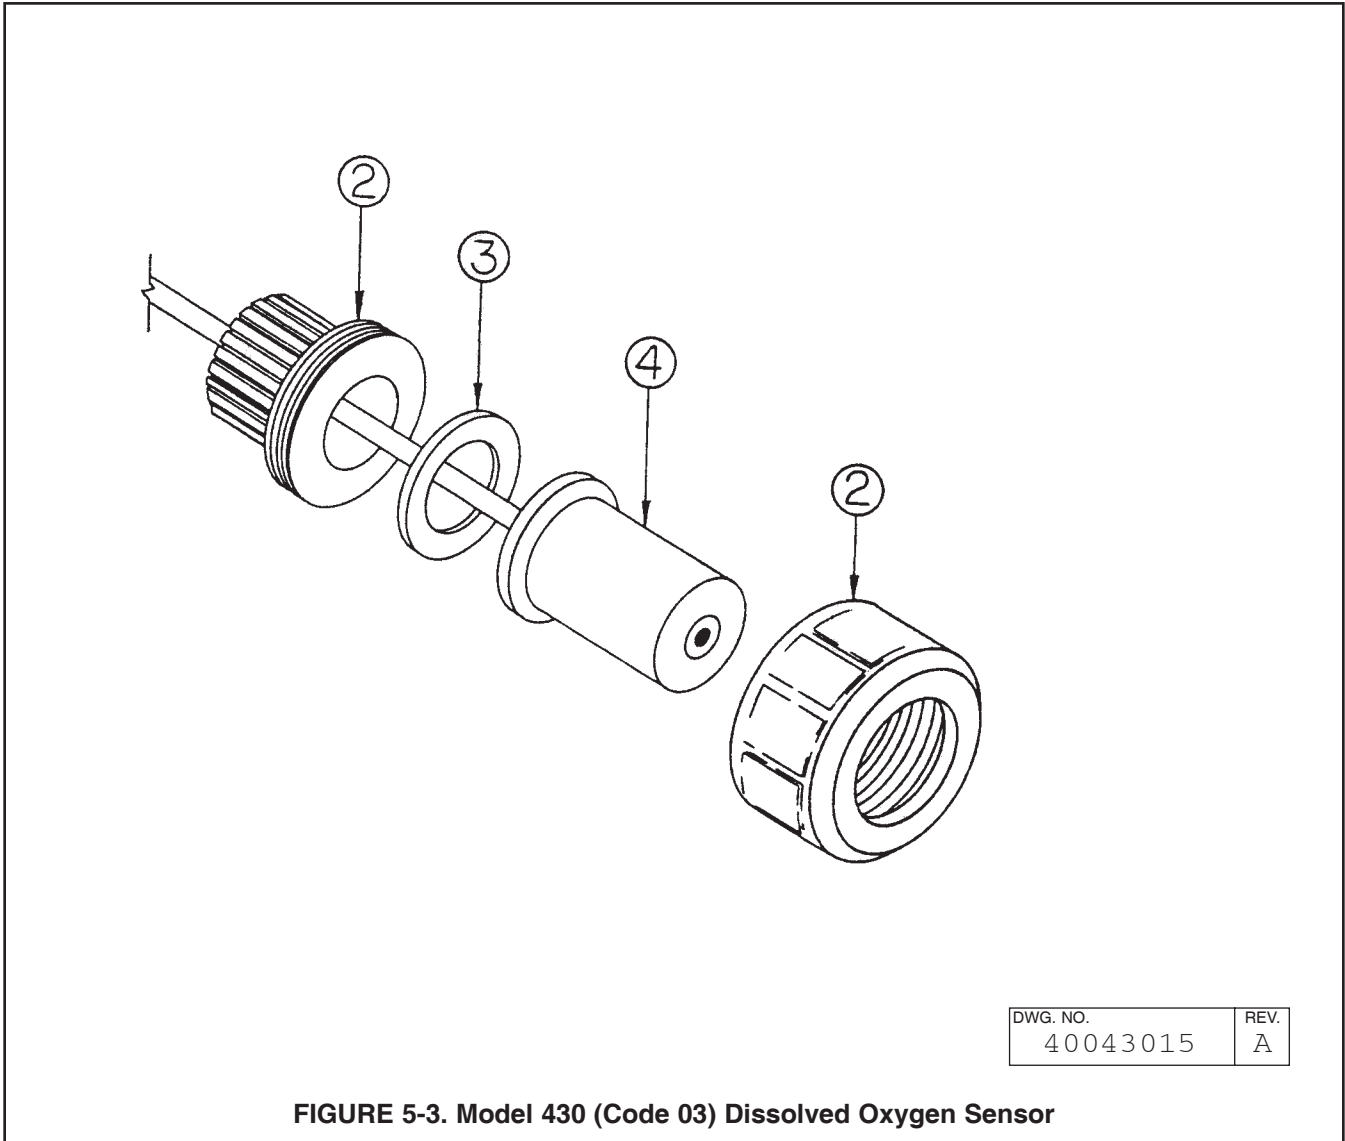
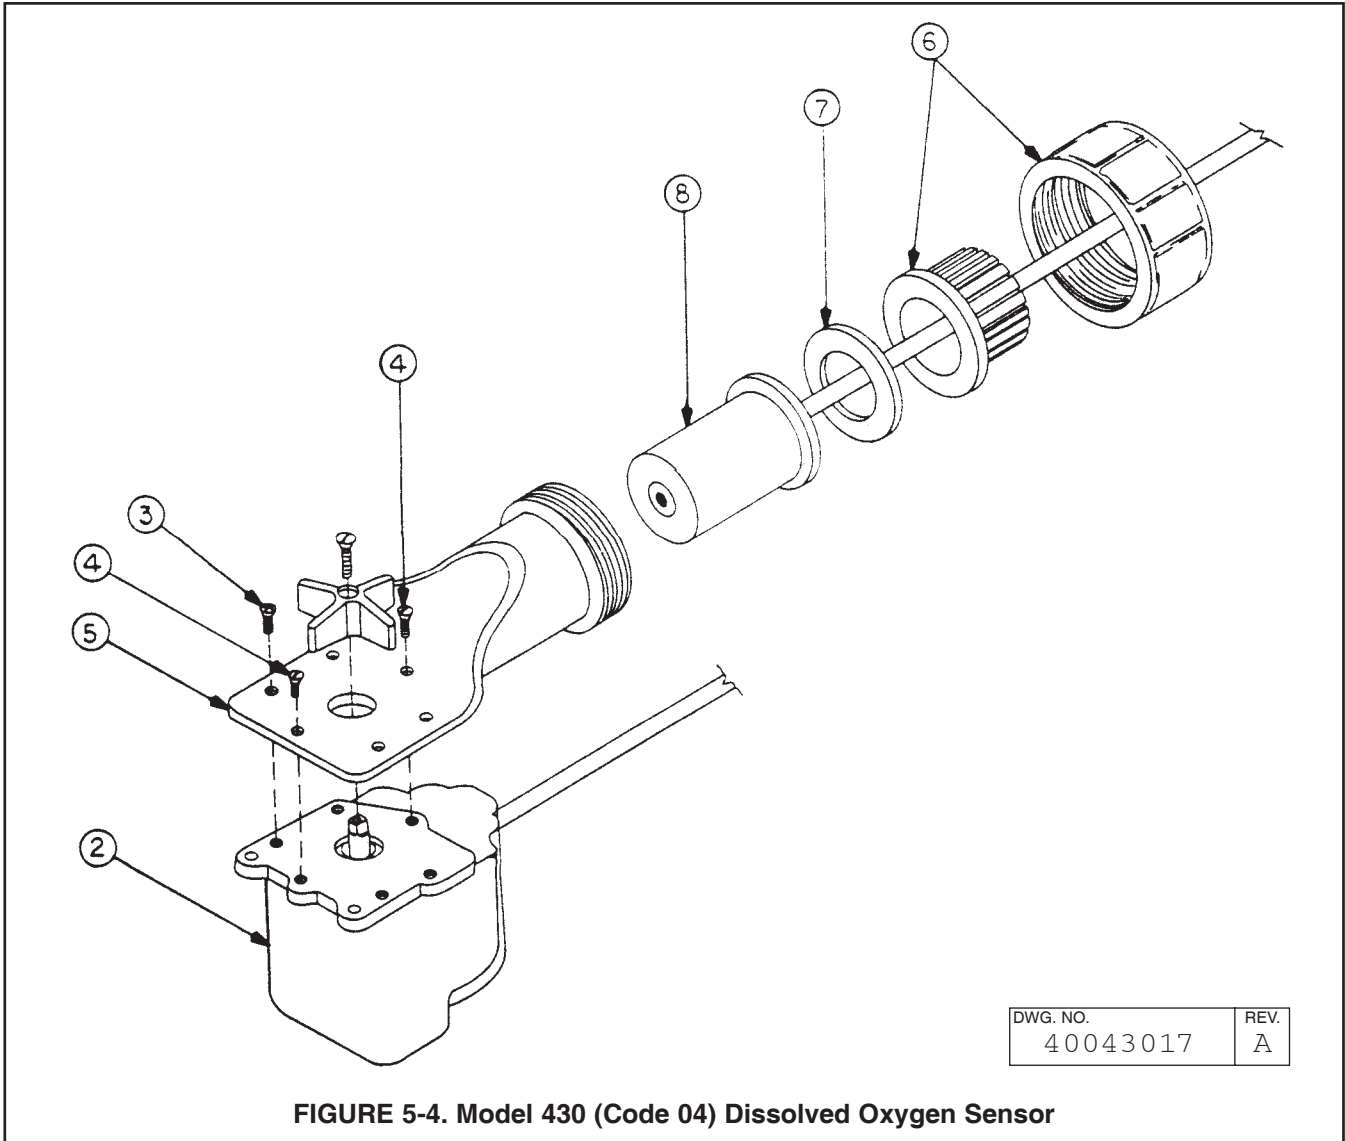

FIGURE 5-3. Model 430 (Code 03) Dissolved Oxygen Sensor
FIGURE 5-4. Model 430 (Code 04) Dissolved Oxygen Sensor
2.3.2 Codes 03 and 04 (see Figure 5-3 and Figure 5-4). These configurations are for submersion into a tank or pond. The Code 03 configuration requires a flow past the sensor of 1.5 feet per second (0.5 m/s). The Code 04 configuration is for stagnant or still tanks and ponds.